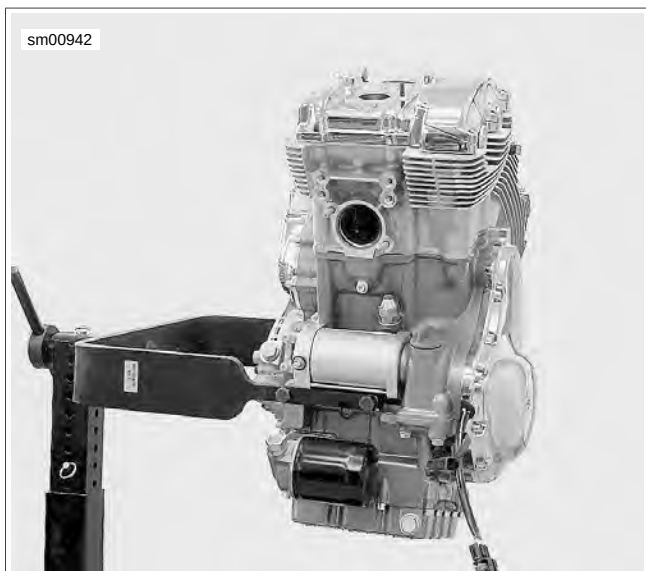

Figure 3-10. Engine in Cradle and Rolling Stand
6. See Figure 3-10. Install fastener and handle from CRADLE LOCKING NUT AND SPACER RING (Part No. HD-42310-100).